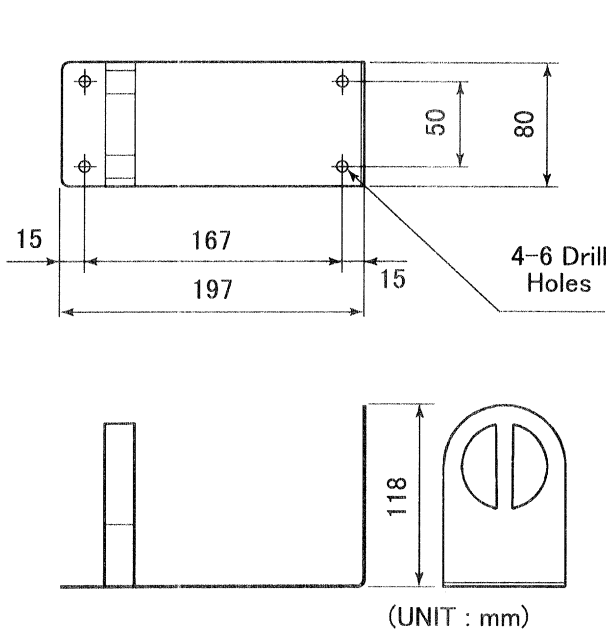

Fig. 3.6 Bracket Mount
- (1) Select a Bracket Mount installation location where there is a wall (wood panel) strong enough to hold the Bracket Mount securely and that is easily accessible in an emergency.
- (2) Use 4 wood screws included with SART to install the Bracket Mount (Fig. 3.6) on the wall.